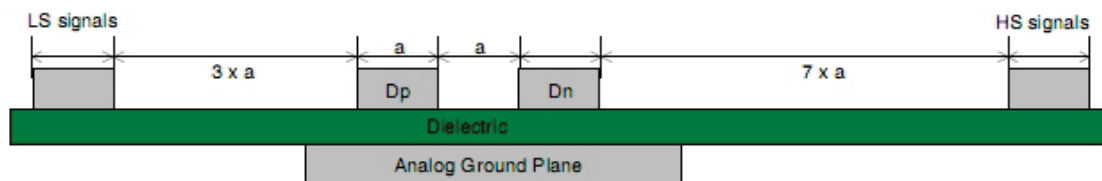

Figure 4-28 USB Layout
- The USB traces at least need to be maintained clearance of $3W$ with other signals. Shown as Figure 4-28.